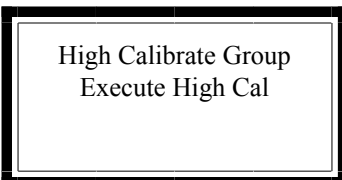

Figure 10b: Executing the High Calibration Variable.
- 4) Toggle the “Next” key until you reach the “Execute High Cal” Menu, Figure 10b, and press the MODify key, and follow the two remaining prompts. (Continue, Ready)